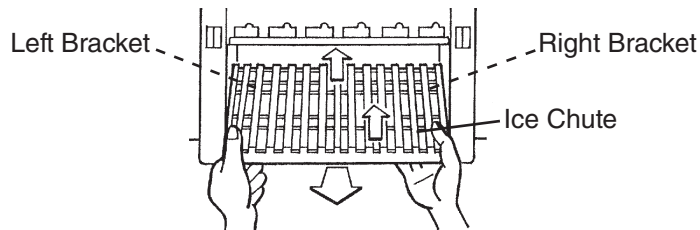

Fig. 40
- 6) Lift the ice chute up from the left and right brackets. See Fig. 40.